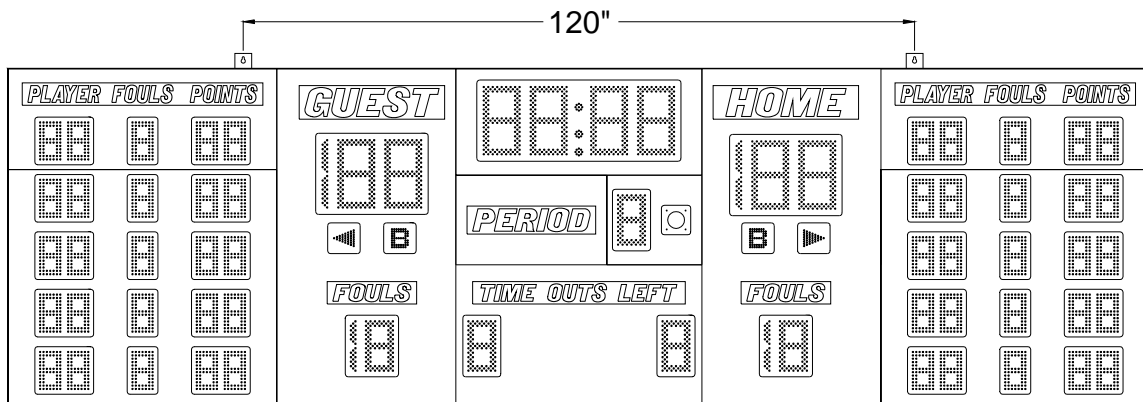

Figure 2 Model 2557 Mounting Points
3. Insert lag bolts or other suitable fasteners through the hanger brackets and fasten the scoreboard to the wall. Figure 2 shows the mounting point locations for model 2557.